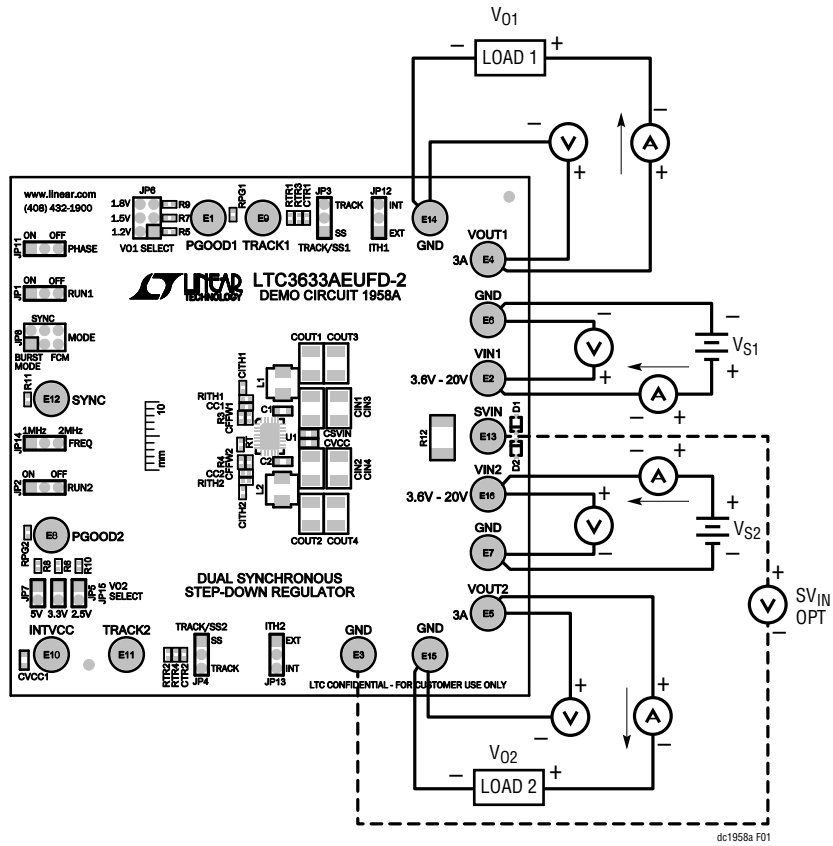

Figure 1. Proper Measurement Equipment Setup
Demonstration circuit 1958 is easy to set up to evaluate the performance of the LTC3633A-2. For a proper measurement equipment configuration, set up the circuit according to the diagram in Figure 1.
1. Connect the input power supply to the V_{IN1}/V_{IN2} and GND terminals (V_{IN1} and V_{IN2} are separate nodes.). Connect the loads between the V_{OUT} and GND terminals. Refer to Figure 1 for the proper measurement equipment setup.